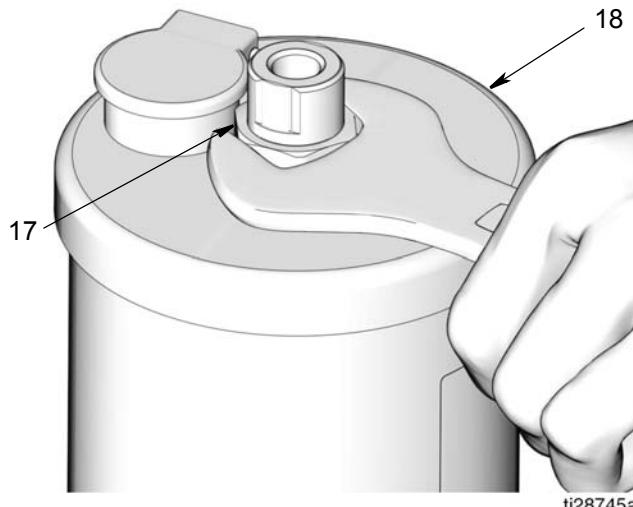

FIG. 14
**9. Reservoir Gaskets (10)**
Use a wrench to loosen and remove nut (17) from reservoir cover (18) (FIG. 14).